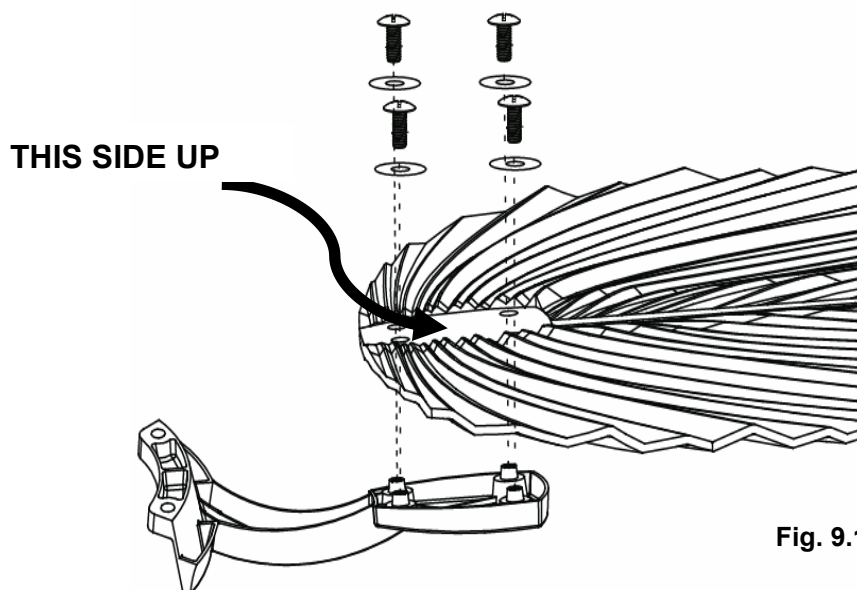

Fig. 9.1
1. Assemble the fan blades to the fan blade bracket by tightening the 4 blade screws and washers. Take note the correct side of the blades with the marking “THIS SIDE UP” is on the screw head side. (Fig. 9.1).